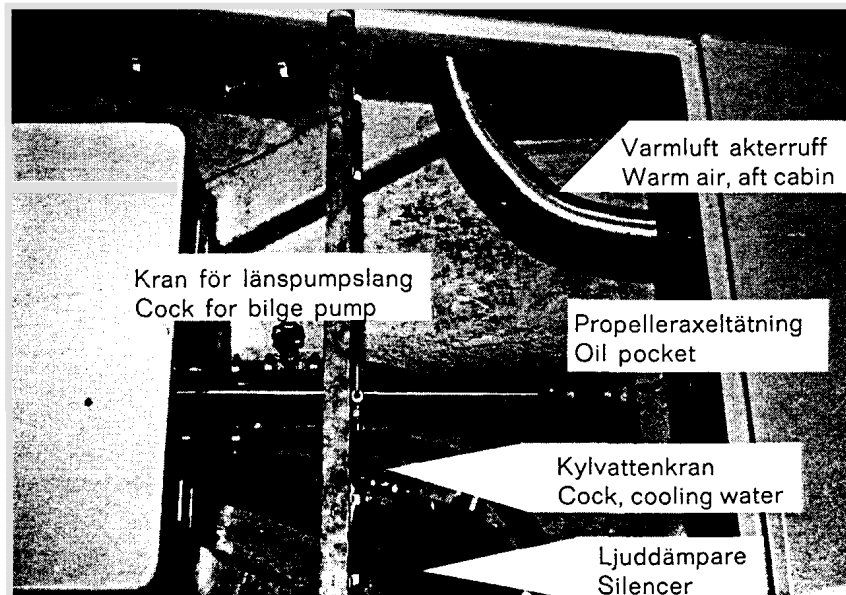

Fig. 16. Propeller shaft with oil pocket, cooling water seacock and cock for bilge pump.
5. Check that the cooling water seacock is open (fig. 16).
9. Unscrew the plug on the propeller shaft oil pocket (fig. 16 & 18) and check that it is almost filled with grease. Fill with more
that the automatic bilge pump intake is shut off when not needed (fig. 16). The back vent on the pump contains a ball vent which could, if held partly open by dirt particles, cause flooding of the boat. Shutting off the valve also prevents intake noise. Note: When closing this valve, be certain you are not closing the valve for the engine cooling water;
1. After stopping the engine close the seacock on the cooling water intake, fig. 16.